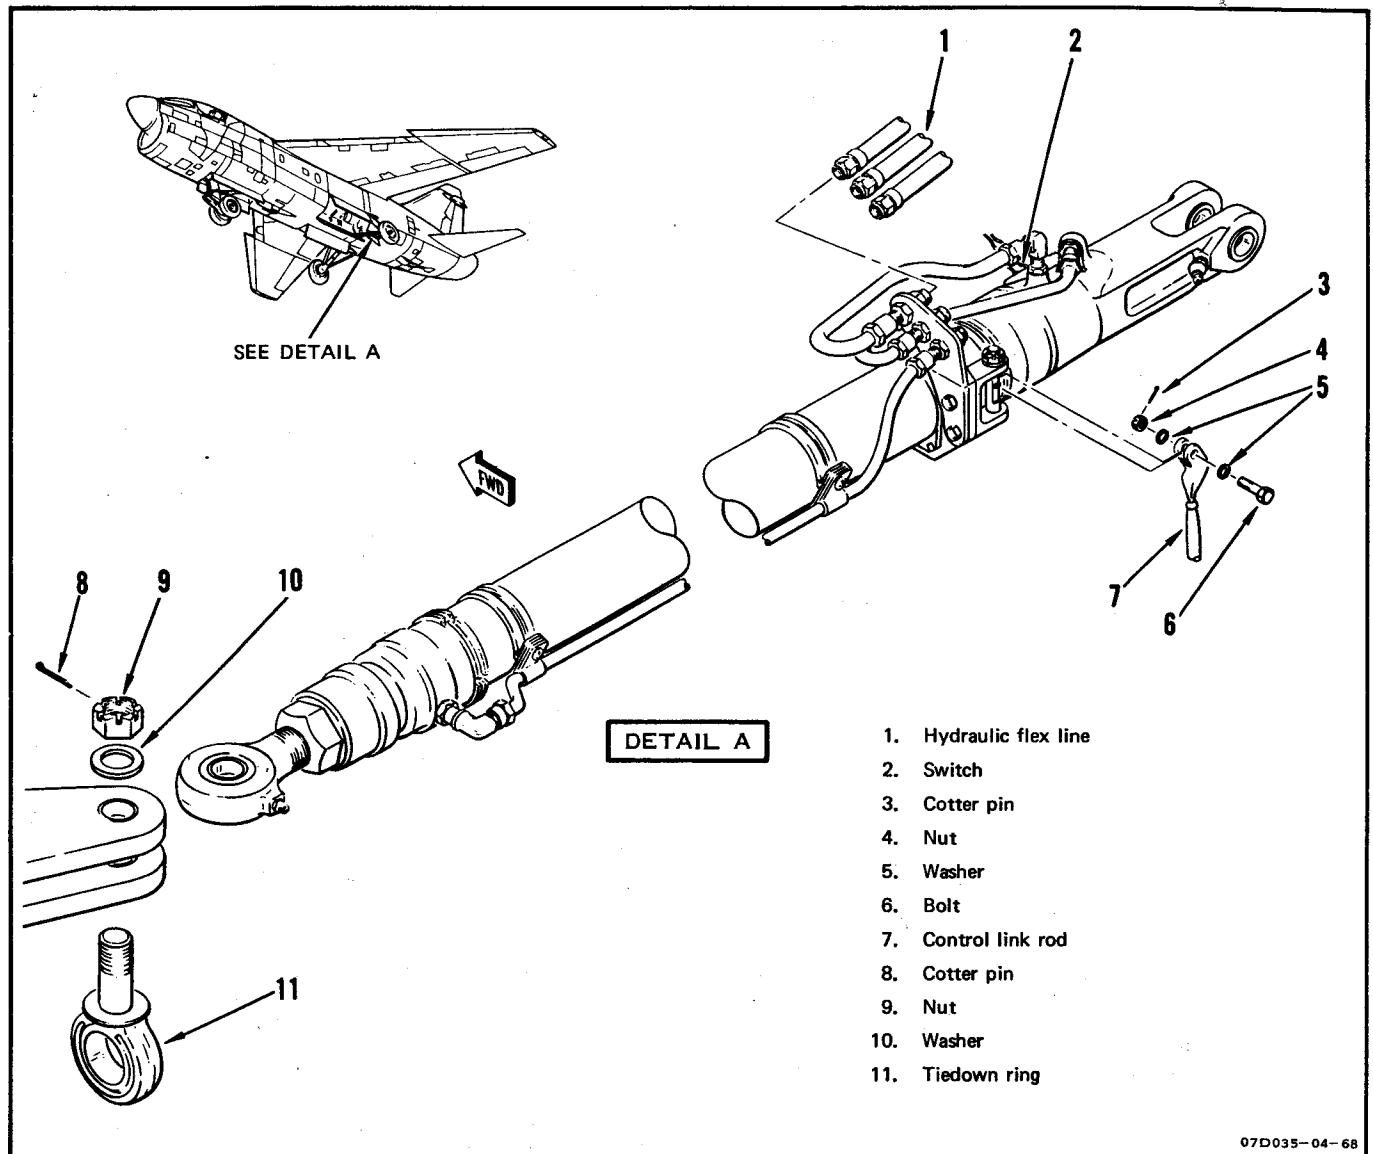

Figure 2-4. Main Gear Actuating Cylinder Removal and Installation
**2-24. REMOVAL. (See figure 2-4.)**
2-25. INSTALLATION. (See figure 2-4.)